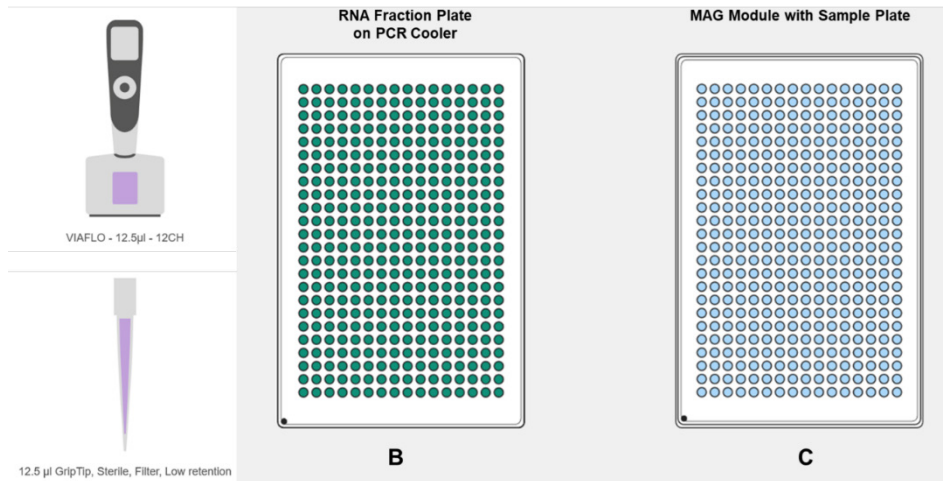

Figure 17: RO384_06_RNATRF.
2. Load the RNA Fraction plate on Position B of the ASSIST PLUS deck and the Sample plate on the MAG Module in Position C (Figure 17). Ensure the MAG Module is connected and turned on.